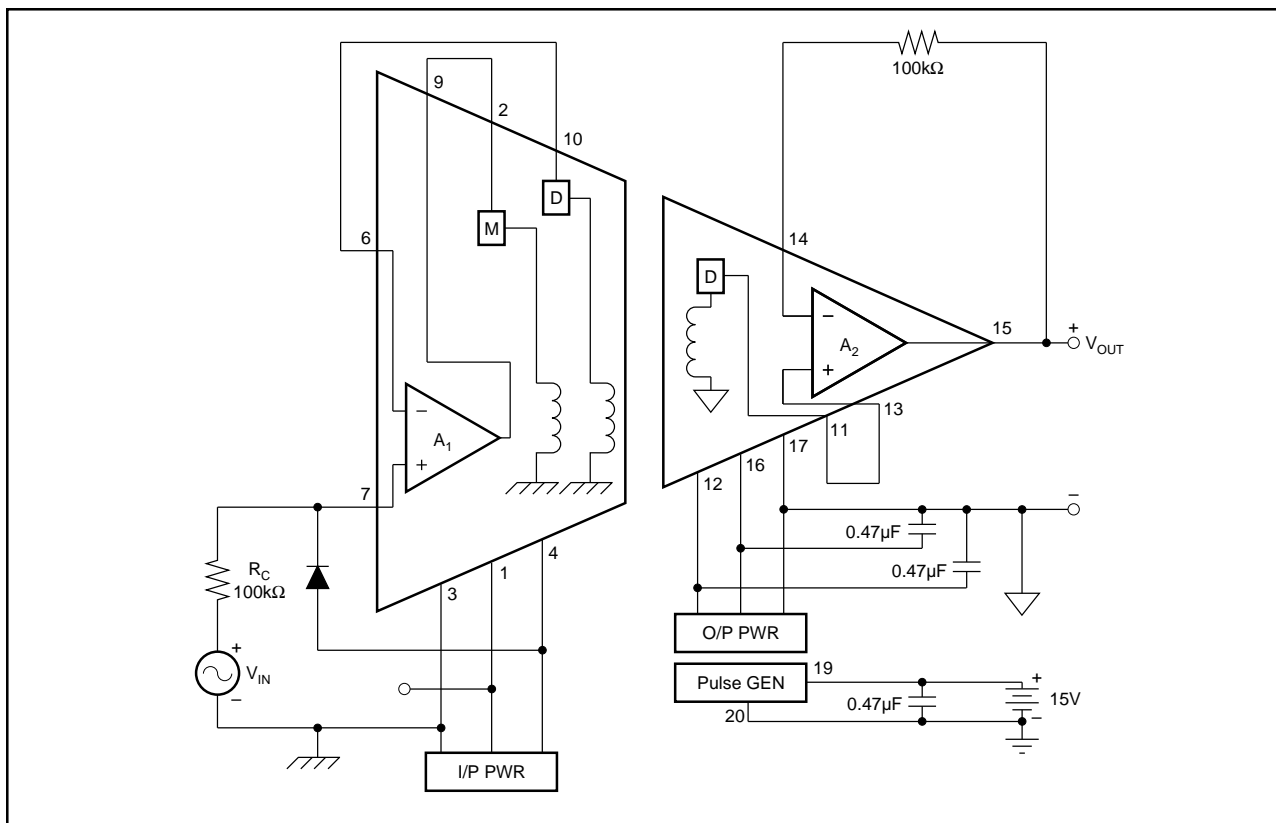

FIGURE 2. Power: Three-Port Isolation; Signal: Unity-Gain Noninverting.
5. The input voltage at pin 7 (noninverting input to  $A_1$ ) must not exceed the voltage at pin 4 (negative supply voltage for  $A_1$ ) in order to prevent a possible lockup condition. A low leakage diode connected between pins 7 and 4, as shown in Figure 2, can be used to limit this input voltage swing.
NOTE: Figures 2, 3 and 4 are used to illustrate both signal and power connection configurations. In the circuits shown, the power and signal configurations are independent so that any power configuration could be used with any signal configuration.
The power supply connections in Figure 2 show the full three-port isolation configuration. The system has three separate grounds with no galvanic connections between them. The two external  $0.47\mu\text{F}$  capacitors at pins 12 and 16 filter the rectified isolated voltage at the output stage. Filtering on the input stage is provided by internal capacitors. In this configuration continuous isolation voltage ratings are: 3500V between pins 3 and 17; 3500V between pins 3 and 19; 1000V between pins 17 and 19.
The signal path portion of Figure 2 shows the 3656 in its simplest gain configuration: unity gain noninverting. The two  $100k\Omega$  resistors provide balanced resistances to the inverting and noninverting inputs of the amplifiers. The diode prevents latch up in case the input voltage goes more negative than the voltage at pin 4.